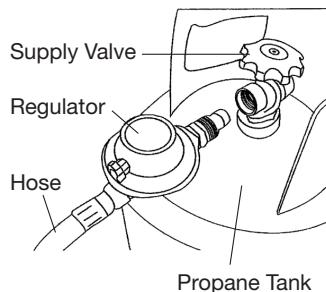

Figure 5
1. To connect hose and regulator assembly, rotate fitting on hose/regulator COUNTERCLOCKWISE into threads on tank valve (see Figure 5 and 6). Be sure to tighten firmly.